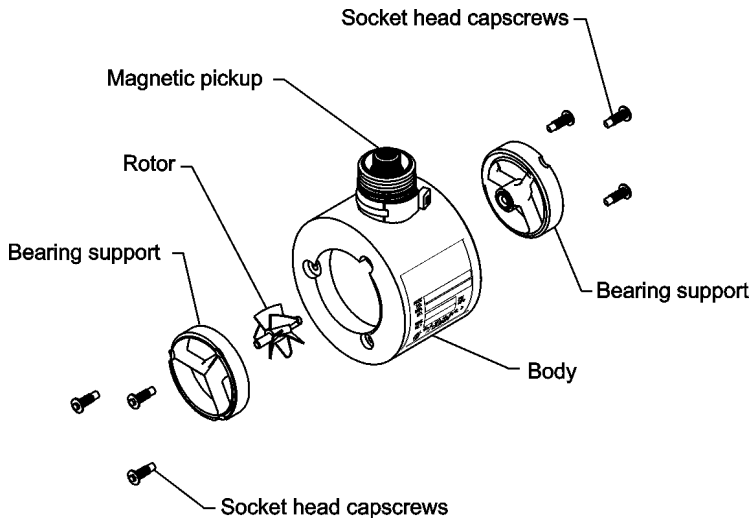

Fig. 1—Flowmeter components
The flowmeter's precision turbine has a speed directly proportional to the liquid velocity flowing through the meter. As the turbine rotates, the blades break magnetic lines of force set up by a pickup screwed into the meter body. This penetration of the magnetic field creates electrical pulses. The flowmeter consists of the meter body, two bearing supports, a rotor, and the magnetic pickup (Fig. 1, Page 2).
4. Remove one of the flowmeter bearing supports (Fig. 1, Page 2).